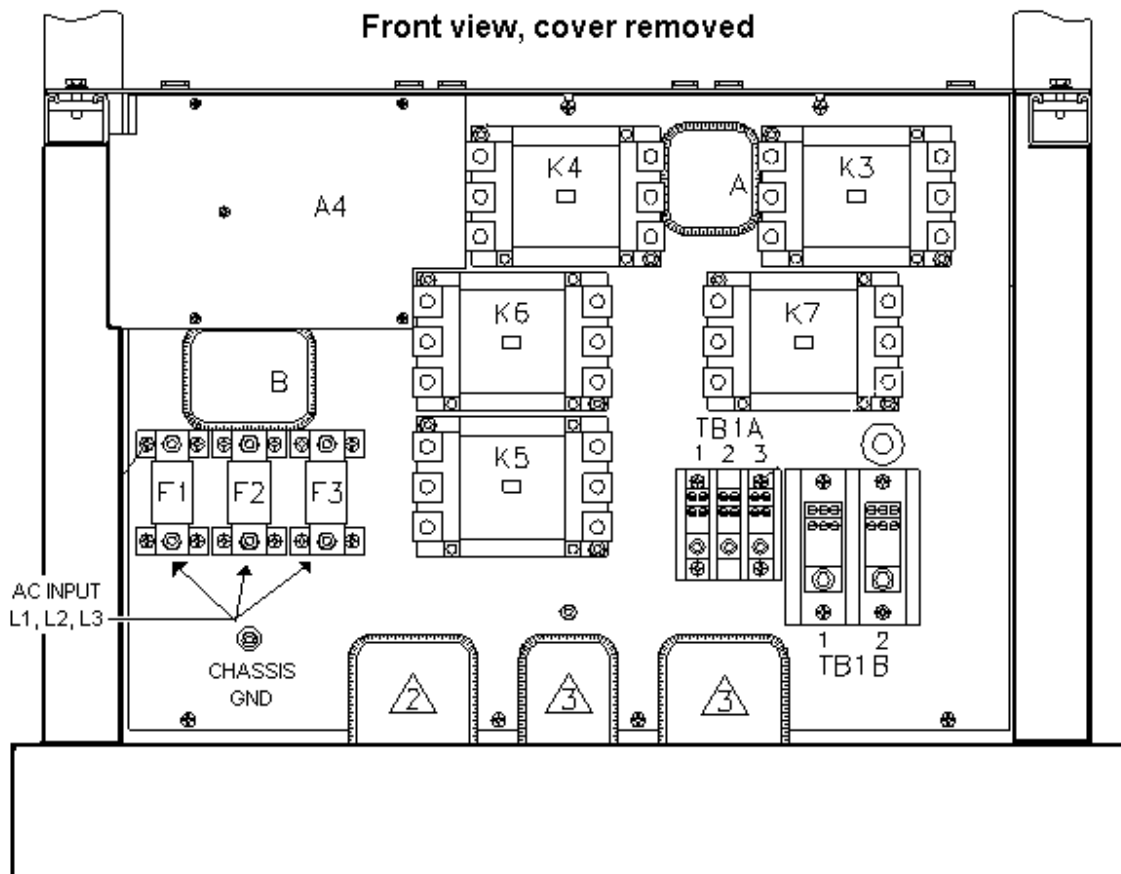

Figure 3-2: Location of AC Input Fuse Block and Chassis Ground Connection - Front View, Access Panel Removed
**CAUTION:** *Always disconnect any input power completely when removing any protective cover and allow the internal capacitors to fully discharge (minimum of 15 mins) before removing any cover.) See Figure 3-2 for details.*
It is important to understand the purpose and operation of the On/Off circuit breaker of the MX Series located on the lower left side of the front panel. This is a 2A rated breaker that is used to engage and protect the LV Power supply of the MX chassis only. The LV Power supply provides DC bias power to the entire MX system. The AC input power is routed through a set of three AC line fuses (F1, F2 and F3) located in the lower left bottom corner of the MX. (See Figure 3-2 for fuse locations). These fuses protect the three MX amplifiers and the AC input transformer from excessive input currents. The AC input power is connected to the input transformer through a large three-pole contactor. Removing AC power to the LV Power Supply by opening the front panel circuit breaker (moving the lever to the down (OFF) position) will cause this contactor to loose its coil voltage and will result in it opening and disconnecting the input transformer and amplifier from AC mains input.
The output terminal blocks, TB1A and TB1B are located at the front of the unit behind the bottom access panel. See Figure 3-2 for details.